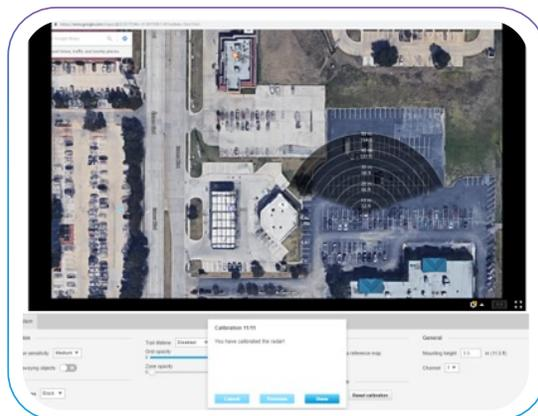
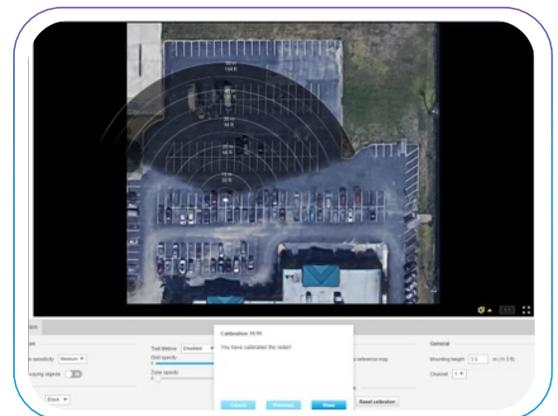

Figure 22. Calibration – Map Image 1
Figure 23. Calibration – Map Image 2
- For comparison, an initial Reference Map is shown in Map Image 1 (**Figure 22**) versus a centered and scaled Reference Map shown in Map Image 2 (**Figure 23**).